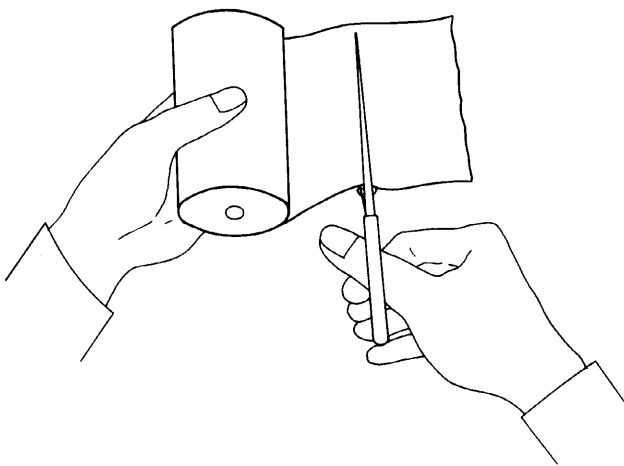

Figure 5. Cut Paper Square
1. With scissors, cut the end of the paper square. (See Figure 5.)